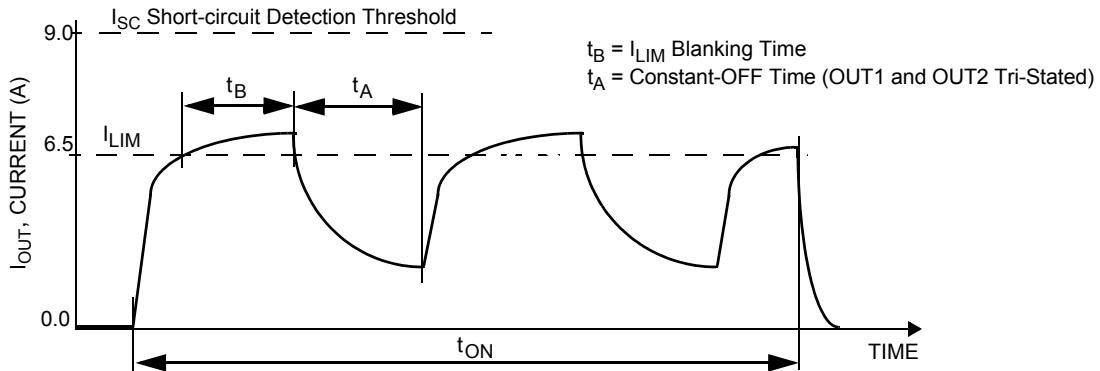
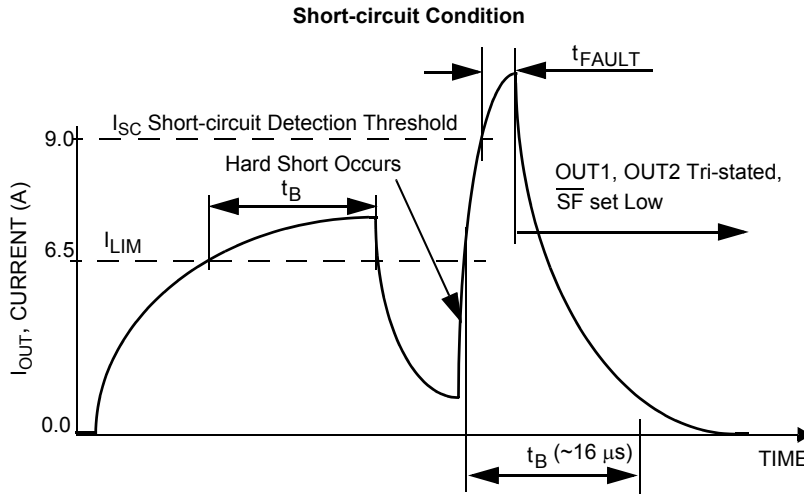
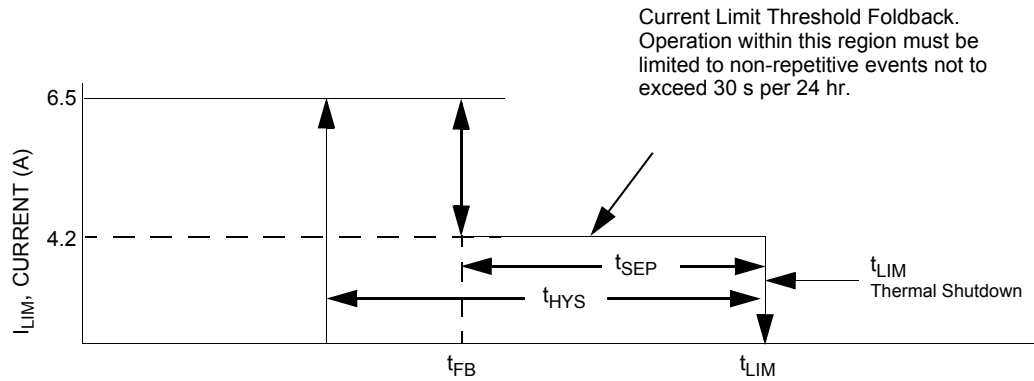

Figure 7. Current Limit Blanking Time and Constant-OFF Time
Figure 8. Short-circuit Detection Turn-OFF Time t_{FAULT}
Figure 9. Output Current Limiting Foldback Region
| Output Current Regulation Threshold $T_J < T_{FB}$ $T_J \geq T_{FB}$ (Foldback Region - see Figure 9 and Figure 11) ⁽¹³⁾ | I_{LIM} | 5.2 | 6.5 | 8.0 | A |
28. Load currents ramping up to the current regulation threshold become limited at the I_{LIM} value (see Figure 7). The short-circuit currents possess a di/dt that ramps up to the I_{SCH} or I_{SCL} threshold during the I_{LIM} blanking time, registering as a short-circuit event detection and causing the shutdown circuitry to force the output into an immediate tri-state latch-OFF (see Figure 8). Operation in Current Limit mode may cause junction temperatures to rise. Junction temperatures above $\sim 160^\circ\text{C}$ will cause the output current limit threshold to "fold back", or decrease, until $\sim 175^\circ\text{C}$ is reached, after which the T_{LIM} thermal latch-OFF will occur. Permissible operation within this fold back region is limited to non-repetitive transient events of duration not to exceed 30 seconds (see Figure 9).